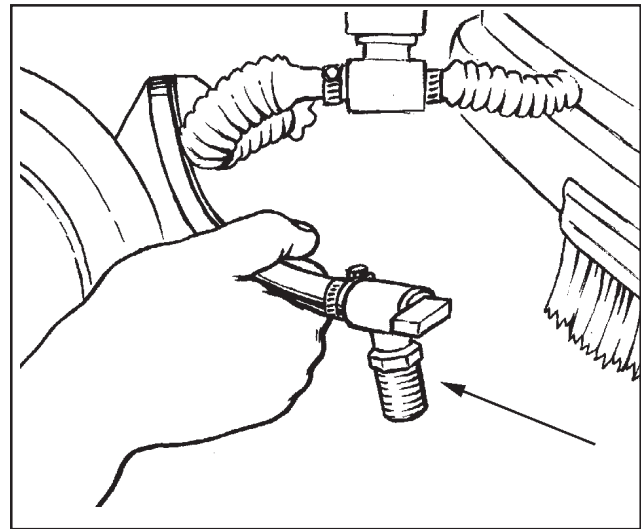

Figure 11
4. To drain battery compartment: (See figure 11)